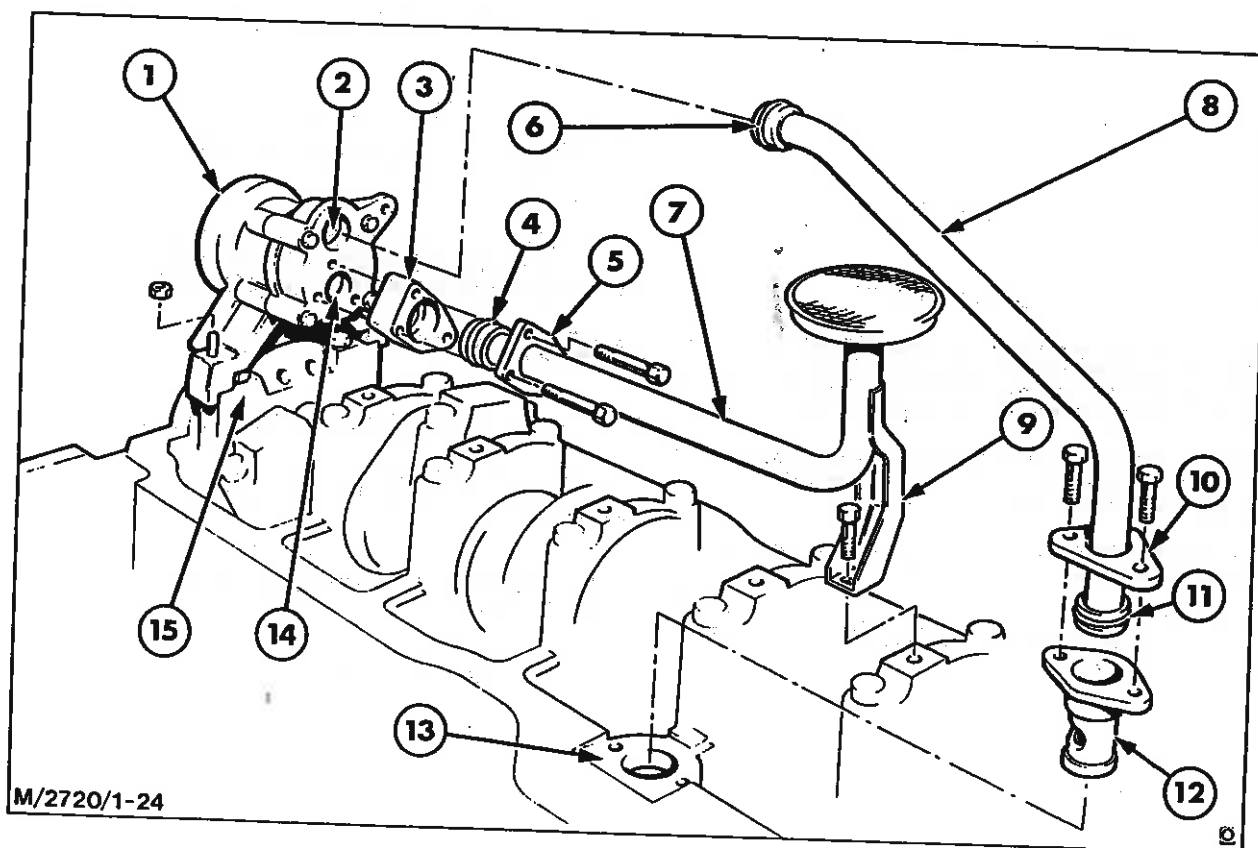

Fig. 24 - Oil Pump Removal/Replacement - 2728T Engines
38. Unscrew the bolts securing the delivery pipe flange to the block, then remove the pipe and adaptor, (Fig. 24). Remove the bolts from the pick-up pipe flange and bracket and detach the pipe, complete with spacer, from the oil pump. Remove the nuts securing the oil pump to the front main bearing cap and carefully remove the pump and idler gear assembly.